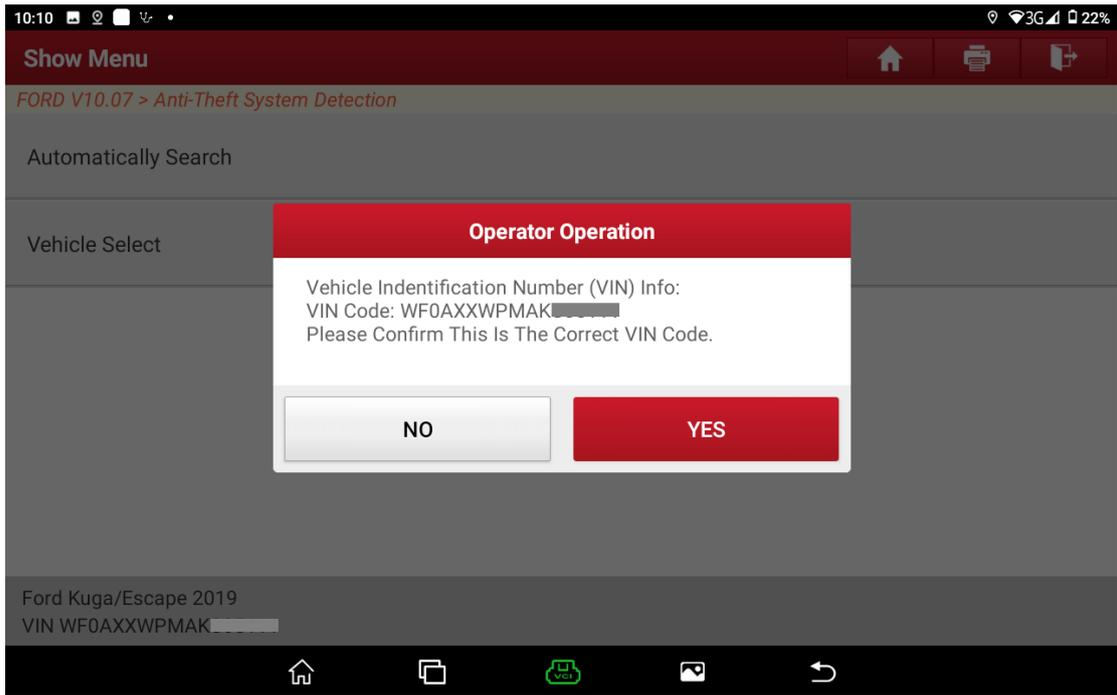

图 5
3. Confirm whether the VIN is correct. Choose [No] to manually input the correct VIN or choose [Yes] to access the next step. See Figure 5.